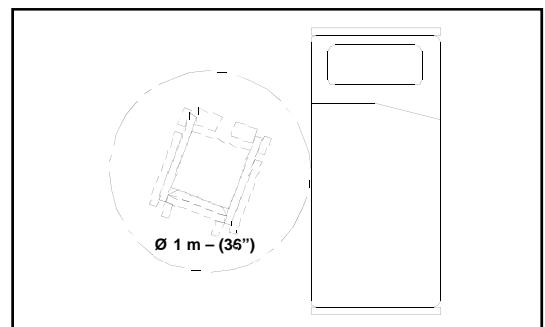

Figure 4
- ◆ Allow 1000 mm / 36 in. of the open area for transfer working space (see Figure 4).